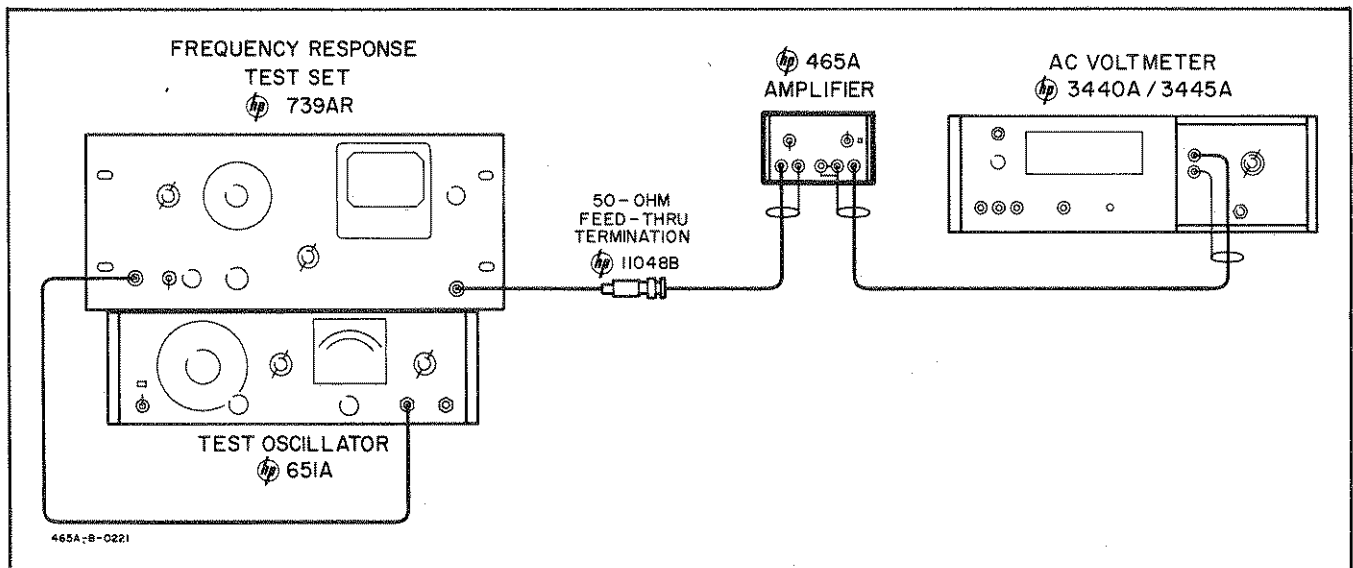

Figure 5-1. Frequency Response Check
- a. Figure 5-1 describes the test arrangement recommended. A Test Oscillator (-hp- Model 651A), a Frequency Response Test Set (-hp- Model 739AR) and an AC Voltmeter (-hp- Model 331A and 3440A/3445A) will be required. -hp- Model 3440A/3445A will be used for frequencies from 50 cps to 100 kc; -hp- Model 331A will be used at all other frequencies. *280 mV
- b. Connect Model 465A as shown in Figure 5-1. Set GAIN to 20 DB.